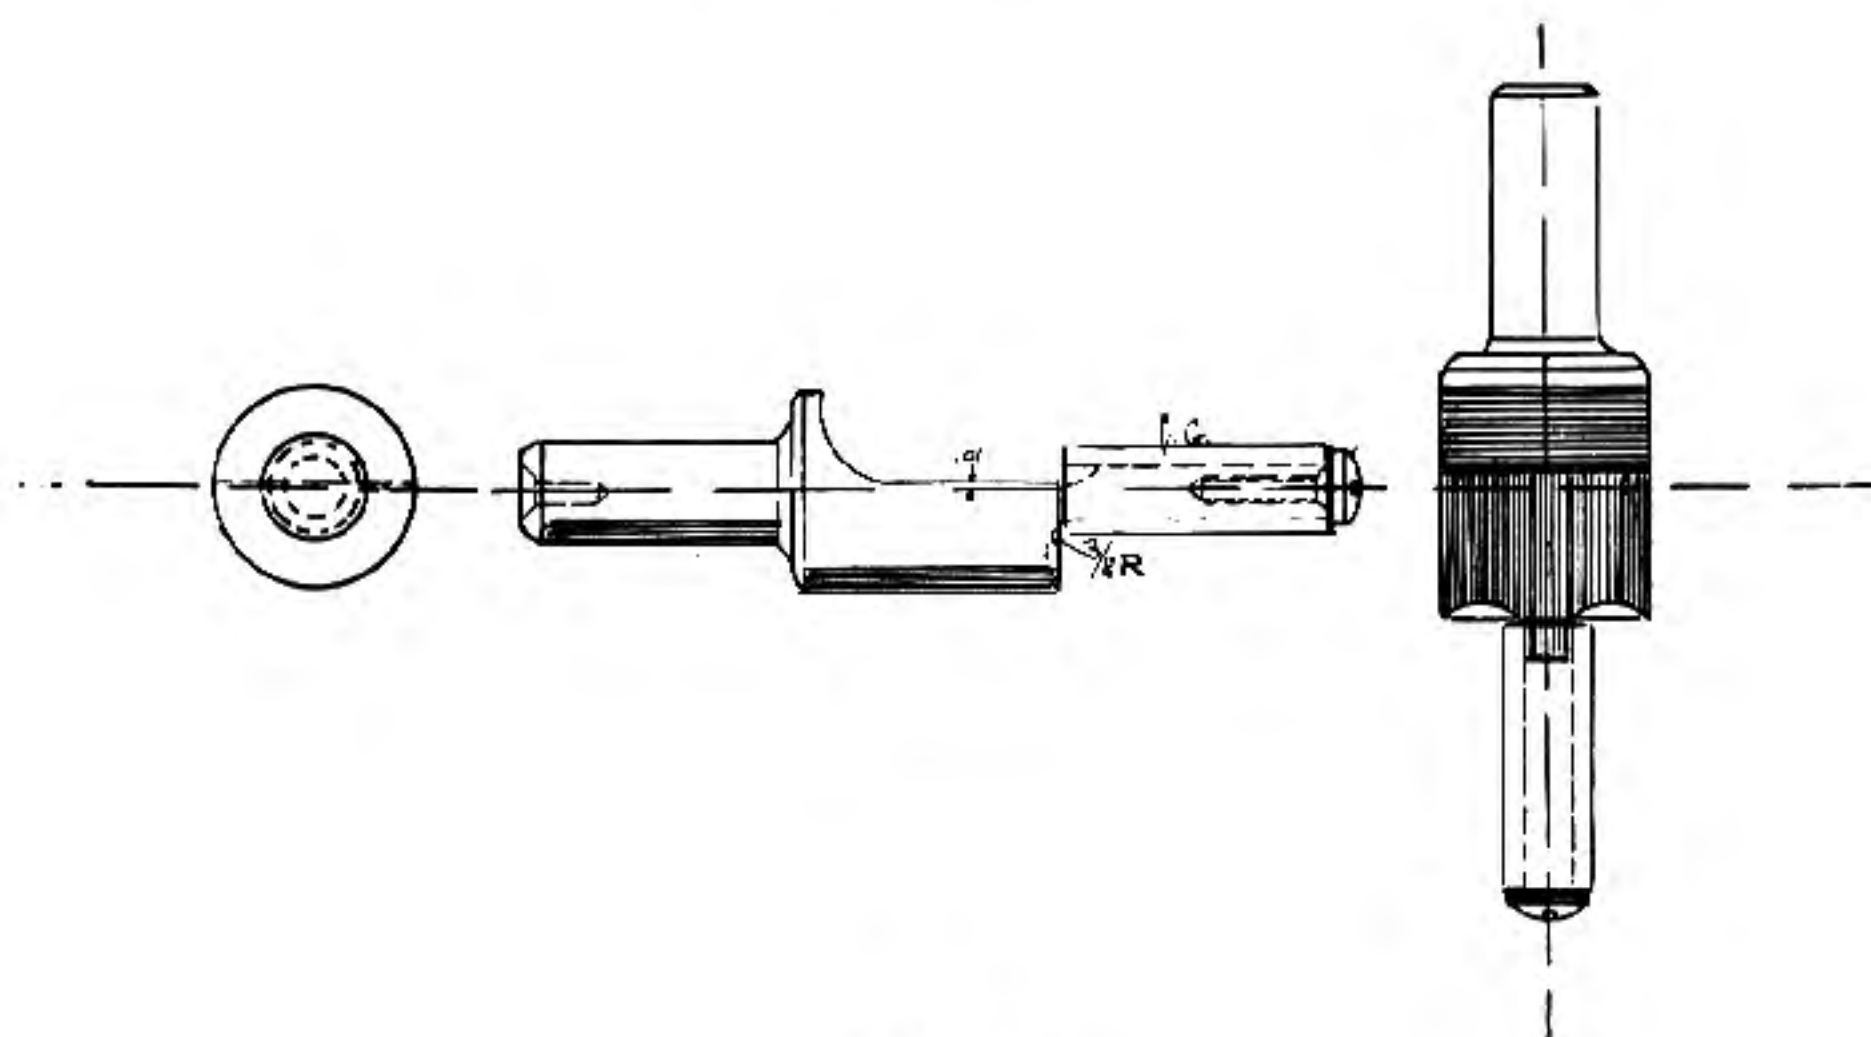

Fig. 12
**Muzzle Reamers**—These are made for crowning or finishing the muzzle of a rifle barrel. Great care must be taken in the operation, for accuracy depends very largely on how perfectly the bullet leaves the muzzle. The proper method is to use a barrel plug and true the outside perfectly in relation to the bore, and then crown the end with a specially ground lathe tool to the correct radius. Not all amateurs are so fortunate as to have a lathe, so one must make a special tool, as shown in Figure 12, which may be used in the drill press. In using this device have someone revolve the press by hand so that you can use both hands in order to apply the proper pressure. It can also be done by using it in a hand brace, but one must make sure that the cutter does not chatter while revolving. A good plan is to have a local machine shop turn up a blank as shown and then file it so that there is a  $\frac{1}{16}$ -inch cutting edge, and have the cutting edges slightly beveled in opposite sides. Harden and draw the temper to light straw color. Have the cutting edges very sharp. The pilots of these tools must be stoned or, better still, ground to the exact bore of the rifle. If they are not ground they must be lapped so that there are no tool marks whatever, for a rough pilot will ream out the rifling. Great care, therefore, should be shown in making these cutters perfectly smooth and true.